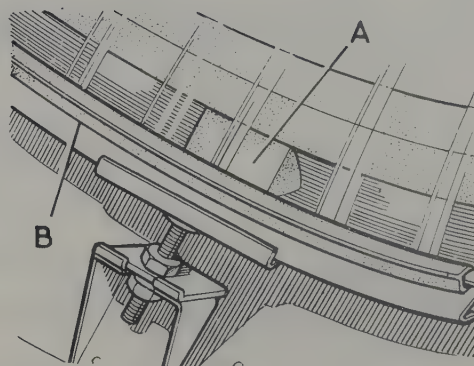

Fig. 12.48. Windscreen spacer blocks (A), support channel (B)
- 14 Refer to Fig.12.48 and fit the neoprene blocks "A" between the bodyshell and windscreen support channel at each jacking point so as to maintain the correct clearance between the windscreen glass and bodyshell.